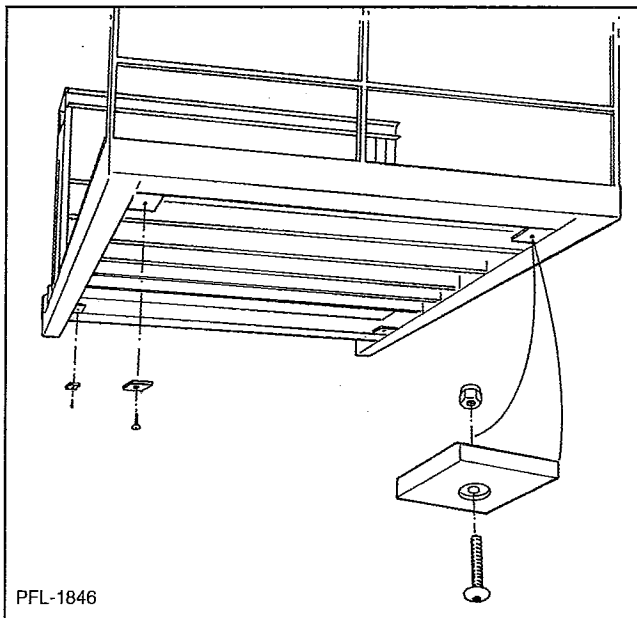

Figure 34
4. Attach the UHMW pads to the underside of the carriage at the four corners. If carriage is in a pit, it may be necessary to shim under the UHMW pads to level the carriage with the floor. See Figure 34.